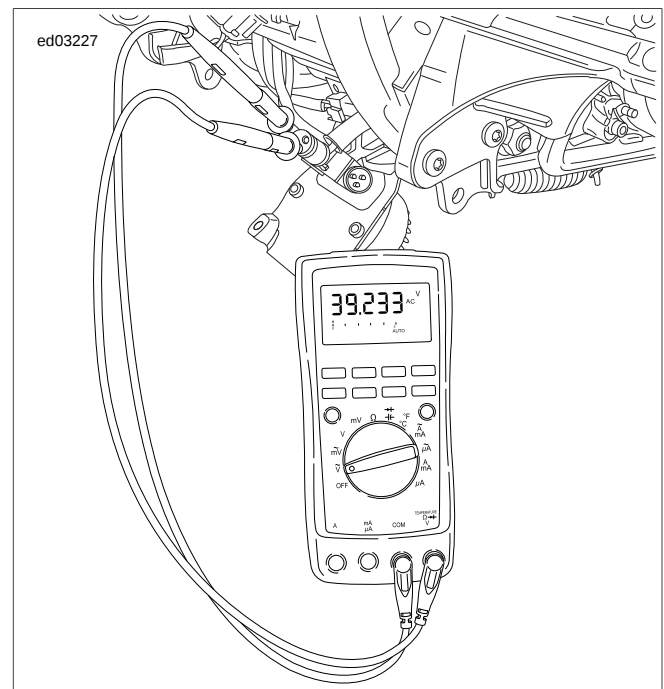

Figure 3-15. Check Stator AC Voltage Output (Typical)
1. See Figure 3-15. Test AC output.